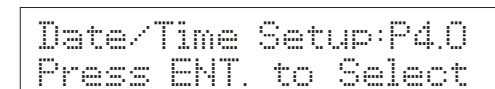

Figure 163
4. The first setup program in Ion mode is *Date/Time Setup: P4.0*. See **Figure 163**. If you want to skip to another program, use the **Δ/MI** and **∇/MR** keys to scroll to the desired program.
1. Enter the Meter setup mode as described above in *Section 10.5.1 Entering meter general setup mode* (Pg 50). The first setup mode is *Date/Time Setup: P4.0*. See **Figure 163**.